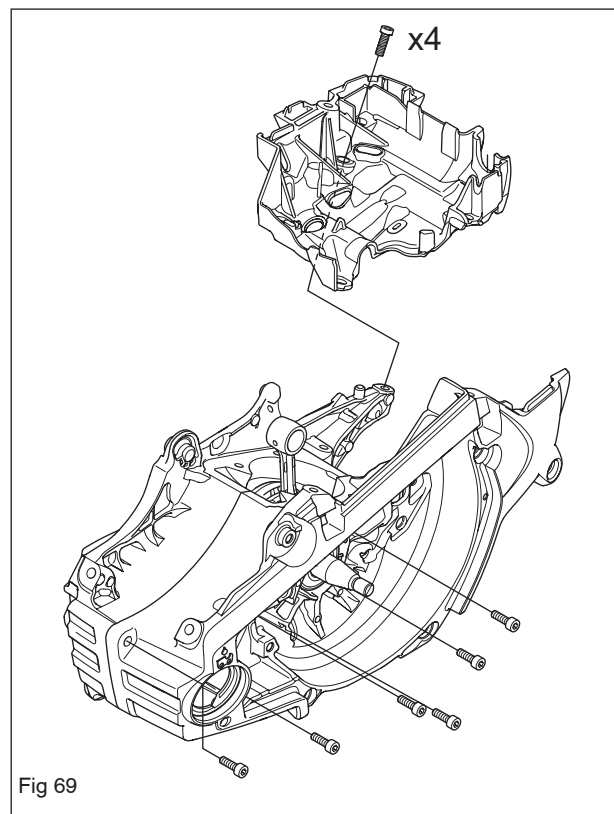

Fig 69
3. Remove the 6 screws from the pulley wheel side. See Figure 69.